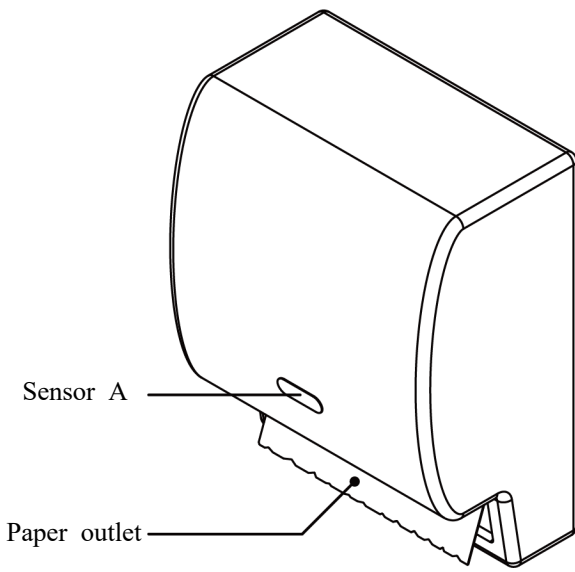
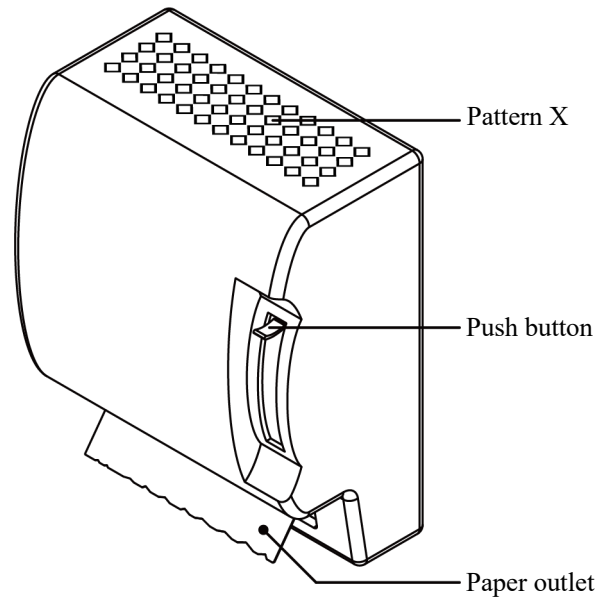

Figure 1
Figure 2
4. The figures below show two types of roll-type paper towel dispensers. Figure 1 is a sensor-activated dispenser, while Figure 2 is a manual push-type dispenser.
- (e) Referring to Figure 2, state one design principle of Pattern X. (1 mark)